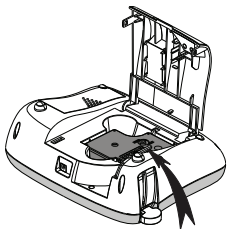

Figure 5
- 3 Insert the cassette with the label facing up and positioned between the label guides. See Figure 5.
- 4 Press firmly until cassette clicks into place. See Figure 5.